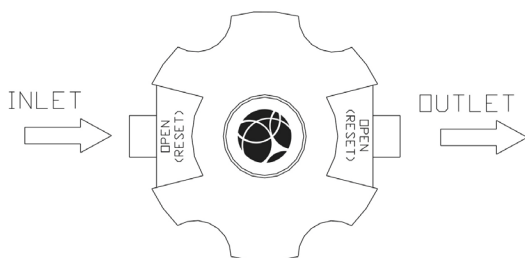

FIGURE 1
1. If purging with an inert gas is desired, turn the handle so that the cutouts line up with OPEN (RESET) on the bonnet label. In this position, the valve is locked open, and will not shut off regardless of the flow rate. See Figure 1.